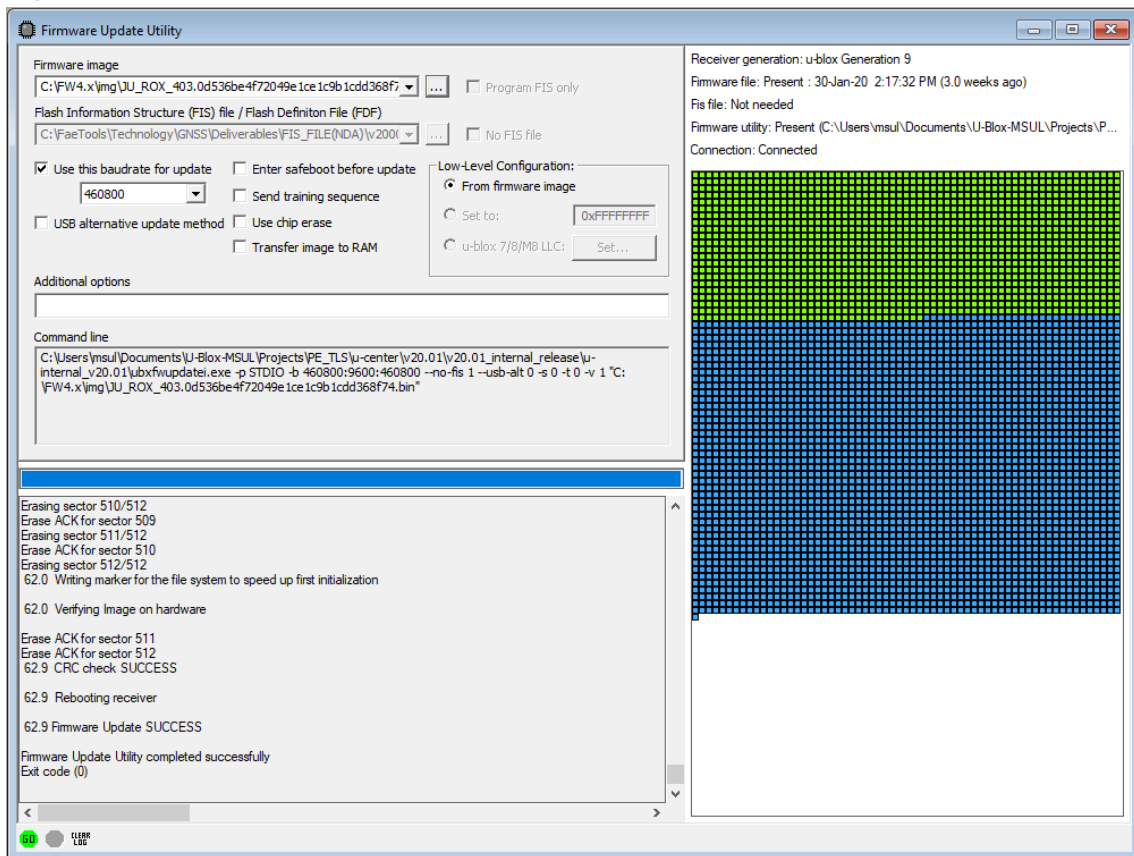

Figure 5: Firmware update tool
1. Select **Tools > Firmware Update....** The firmware update window will appear as shown in Figure 5.